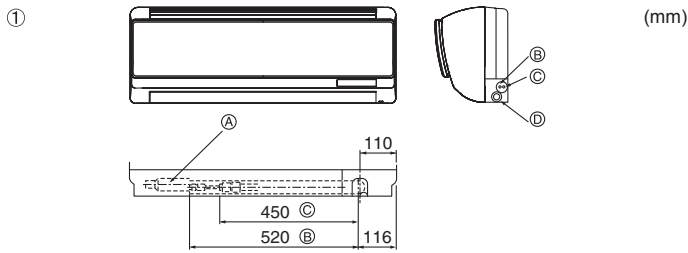
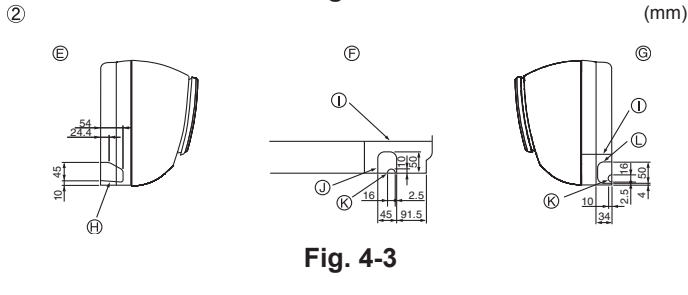

Fig. 4-2
Fig. 4-3
- ① Position of refrigerant and drain piping (Fig. 4-2)
- (A) (Effective length: 640)
- (B) Liquid pipe
- (C) Gas pipe
- (D) Drain hose
- ② Determine the position of the knockout holes on the unit body. (Fig. 4-3)